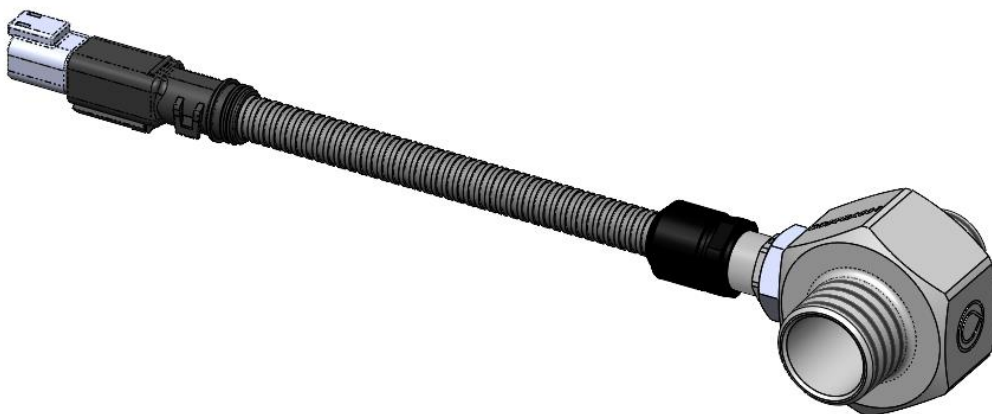

Figure 14 – DEF Heater (BDEFHD) fitted to DEF Heater Adaptor (BDEFHA001)
- Banlaw has designed an in-line DEF system heater adaptor that allow the DEF Heater to be fitted within the DEF transfer system. The DEF Heater Adaptor, BDEFHA001, is available separately for purchase and DOES NOT come supplied with a DEF Heater. An additional DEF Heater must also be purchased. Refer to Figure 14 and Section 6.7 for further details of the DEF Heater Adaptor.